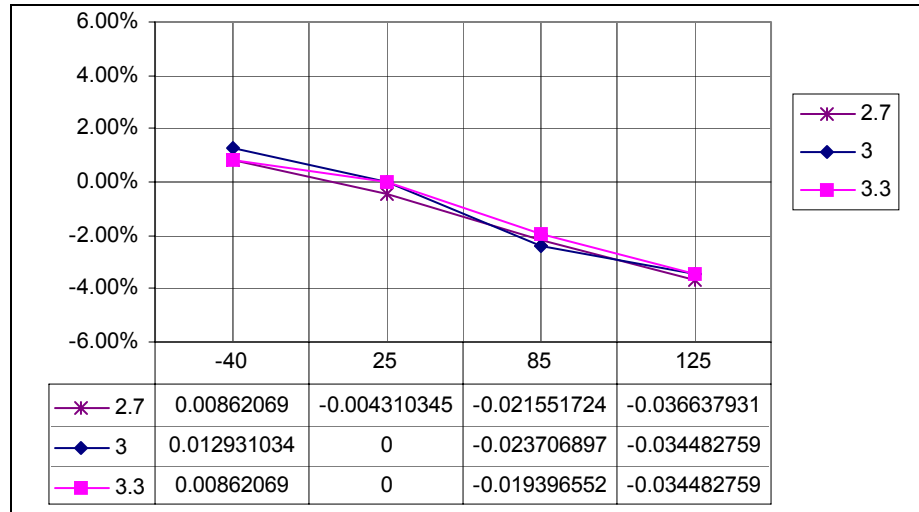
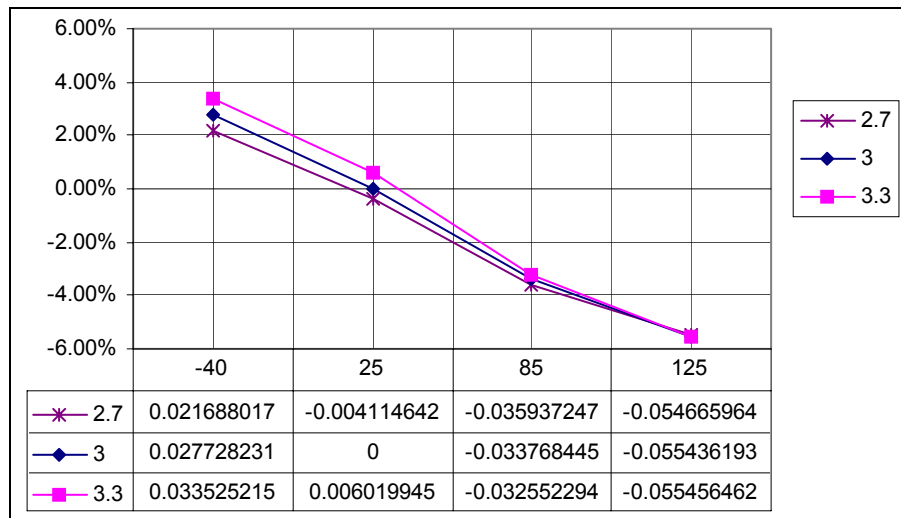
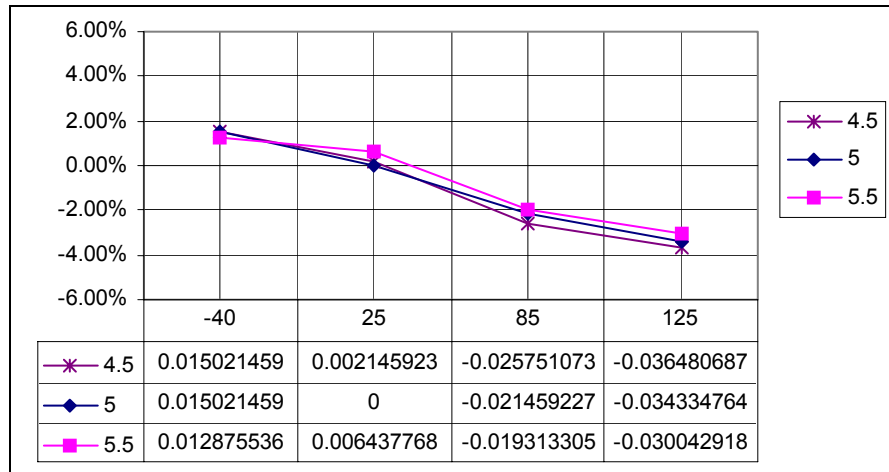
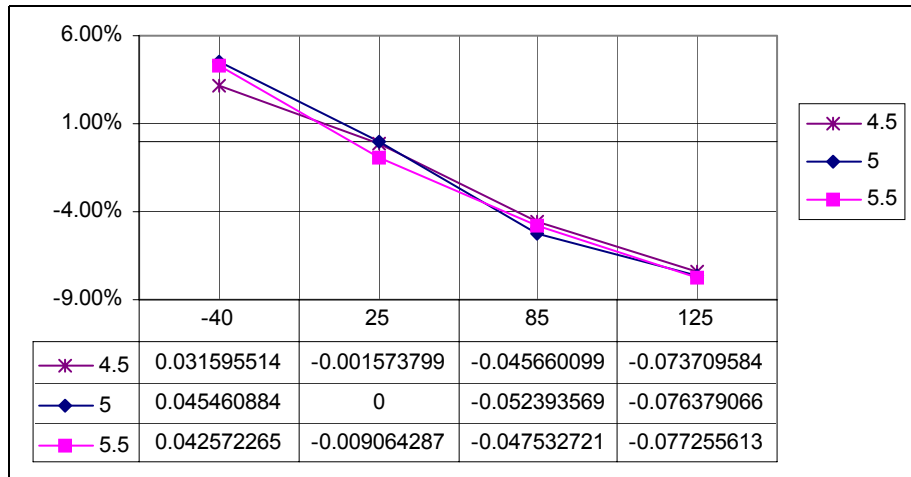

Figure 17-1. Example of Frequency Variation Across Temperature, Trimmed at Nominal 3 Volts, 25°C, and N = 1
Figure 17-2. Example of Frequency Variation Across Temperature, Trimmed at Nominal 3 Volts, 25°C, and N = 104
Figure 17-3. Example of Frequency Variation Across Temperature, Trimmed at Nominal 5 Volts, 25°C, and N = 1
Figure 17-4. Example of Frequency Variation Across Temperature, Trimmed at Nominal 5 Volts, 25°C, and N = 104
Figure 17-1 through Figure 17-4 illustrate typical performance. The formula for this variation of frequency is (measured-nominal)/nominal. Figure 17-1 shows the variation in ICG frequency for a part trimmed at nominal voltage and temperature across  $V_{DD}$  and temperature for a 3-V application with multiply register (N) set to 1. Figure 17-2 shows 5 V.
Figure 17-3 and Figure 17-4 shows N set to 104, hex 68, which corresponds to an ICG frequency of 31.9 MHz or 7.9 MHz bus.